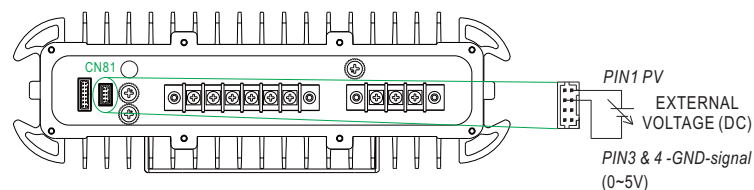

Figure 5-2
- 1.Connect output of the external DC source to PV and GND-signal, as shown in Figure 5-2. For detailed pin assignment of each type, please refer to chapter 4.